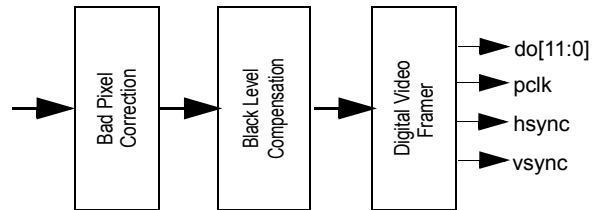

Figure 9. Digital Pixel Processing.
- compensate black level, before being framed and presented on the digital output port. (see Figure 9).